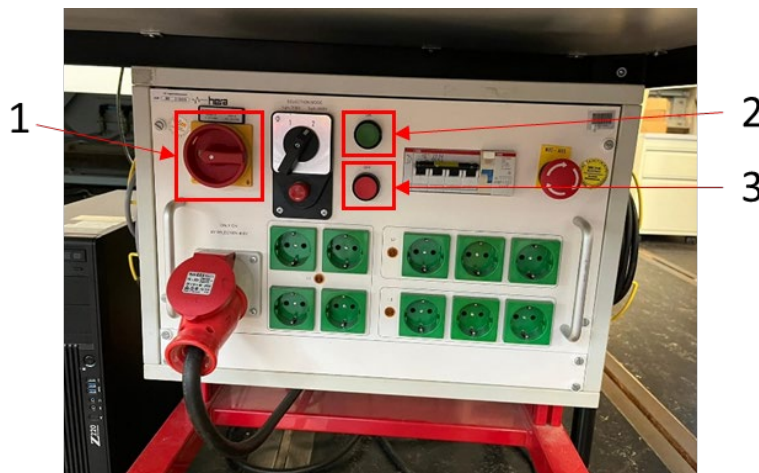

Figure 2 – Power switch Arizona
**ALWAYS MAKE SURE THE POWER SWITCH (Figure 2) IS TURNED OFF WHEN BUILDING!**
5. When the prompt "Confirm that the Arizona power switch is on!" is shown, please validate the the multimeter **shows zero DC voltage!**, and then turn switch (1) and press button (2), as shown in Figure 2.
- "No": The Simulink run will be stopped. Make sure to turn off the power to the Arizona again by pressing button (3) in Figure 2. If starting a new experiment redo the procedure.